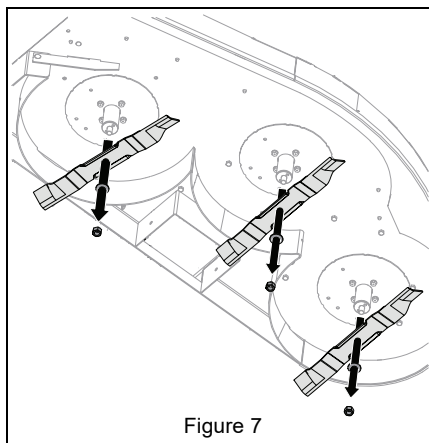

Figure 7
1. Remove and retain hex nuts and Belleville washers retaining mower blades. Note orientation of washers for installation. Retain blades for operation without bagger. See Figure 7.